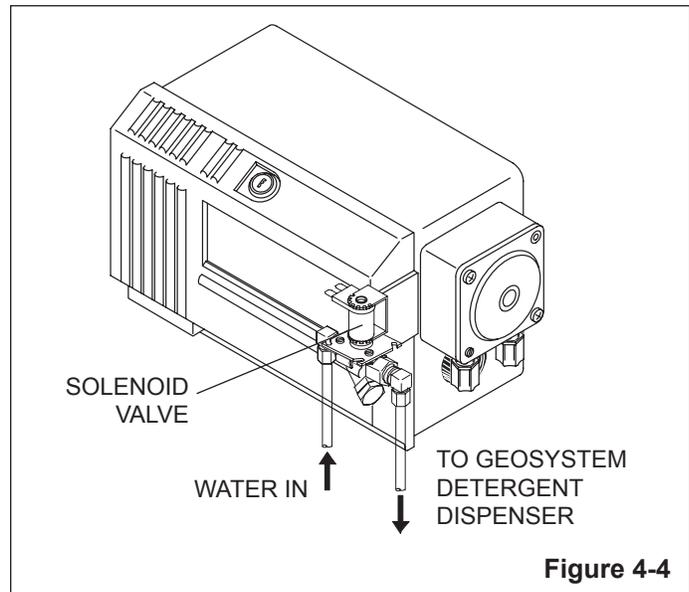

Figure 4-4
7. Connect 1/4" O.D. copper tubing from the water source to the inlet side of the solenoid valve located at the bottom on the GeoCenter cabinet, refer to Figure 4-4.